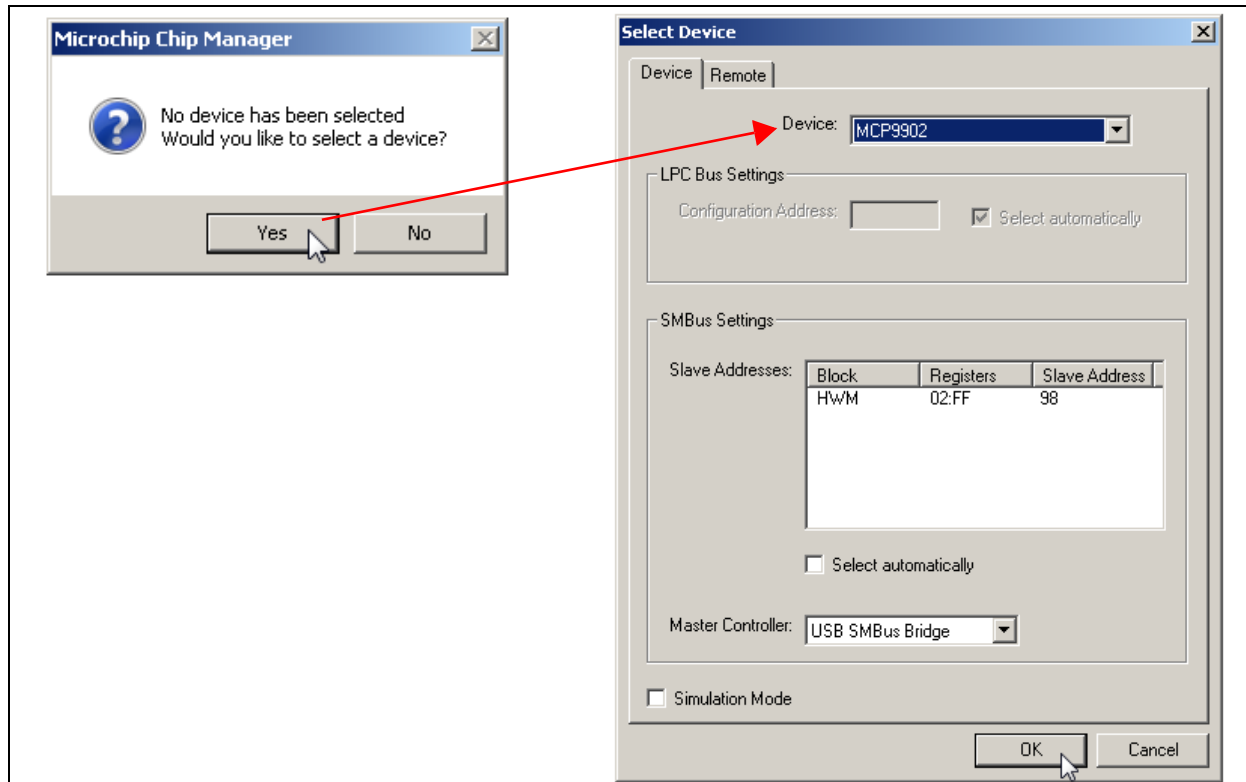

FIGURE 2-10: Select Device Window.
13. If a message stating that no device has been selected appears, click **Yes** to select a device. Alternatively, go to the Chip Manager's main menu, select Options > Select Device. In either case, the Select Device window displays, as shown in Figure 2-10.